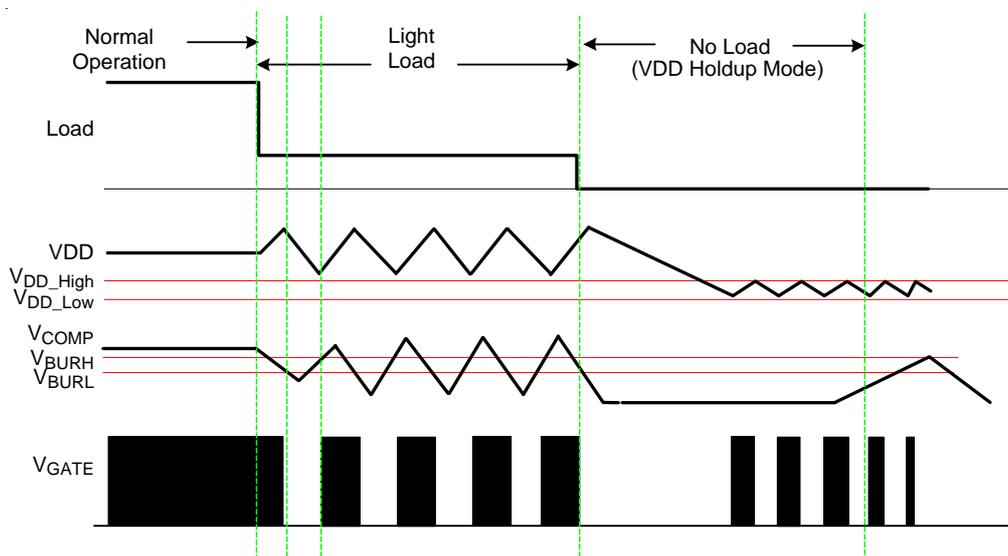

Figure 3. Burst Triple-Mode
To fulfill green mode requirement, there are 3 operation modes in R7730. Please also refer to Figure. 3 for details.
- **Burst Mode** : During light load, switching loss will dominate the power efficiency calculation. This mode is to cut switching loss. As shown in Figure 3, when the output load gets light, feedback signal drops and touches  $V_{burL}$ . Clock signal will be blanked and system ceases to switching. After  $V_{OUT}$  drops and feedback